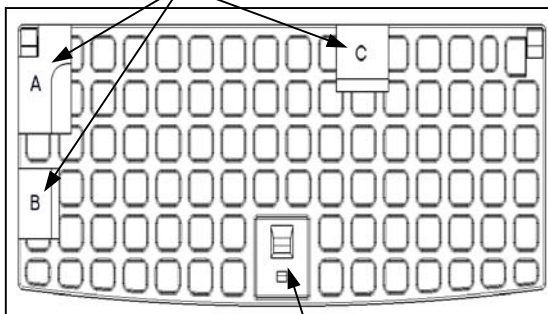

Figure 4
- b) Locate templates A, B and C on load floor and tape in place (see figure 4).